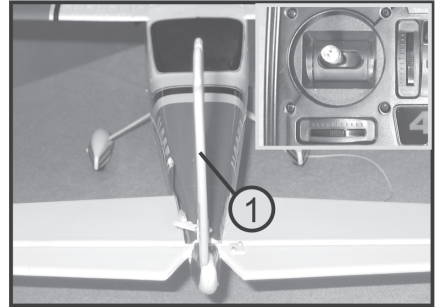

Figure 17a
The trim lever for the rudder has to be in centre position. If the linkage rod is adjusted correctly, the rudder (1) and the tail plane are in line (see figure 17a).